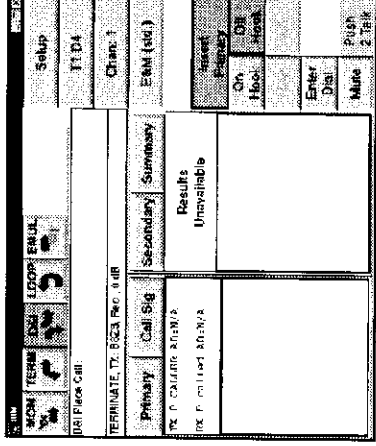

**Figure 3-4. Simulation Drop and Insert Setup**
5. Connect a cable from the **PRIMARY RX** jack to the appropriate DSX-1 A-Side MON jack (see Figure 3-4).
*In Figure 3-4, black cables are Primary connections, and gray cables are Secondary connections.*
6. Connect a cable from the Secondary RX jack to the appropriate DSX-1 Z-side MON jack (see Figure 3-4).
7. Simultaneously, connect a cable from the Primary TX jack to the appropriate DSX-1 A-side IN jack (Figure 3-4) while inserting a 100 ohm terminating plug into the DSX-1 Z-side OUT jack.